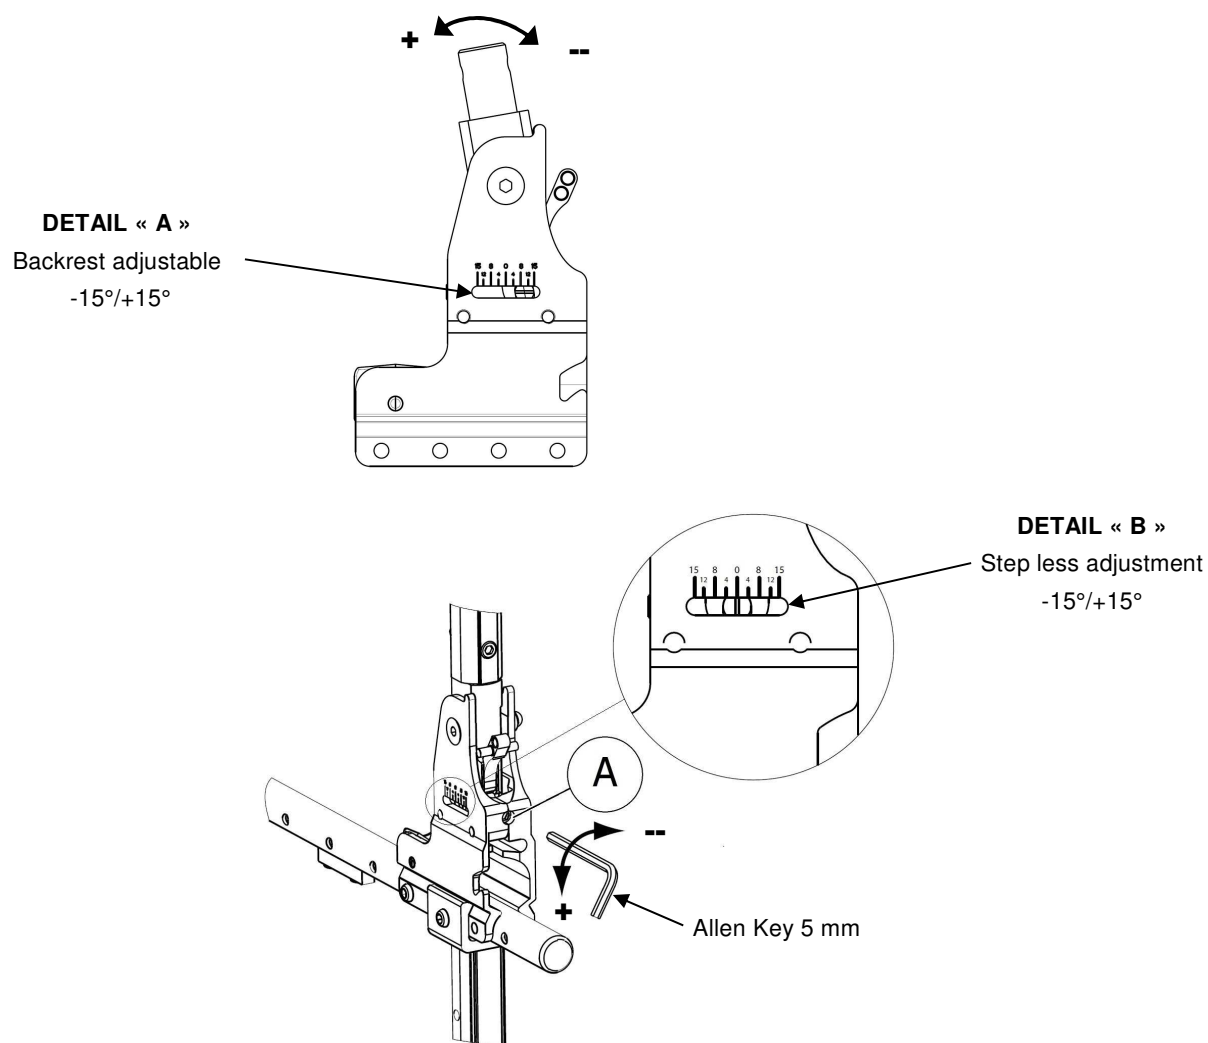

FIGURE 4.6 Adjusting the Angle Adjustable Backrest
NOTE: For this procedure, refer to FIGURE 4.6, next page.
2. Turn Allen key (5 mm) clockwise to obtain a negative angle.
3. Alternatively, turn Allen key (5 mm) under clockwise to obtain a positive angle.
4. Ensure both adjustment to the desired angle are equal on each side of the Back Cane Bracket. Refer to Detail "B" of FIGURE 4.6